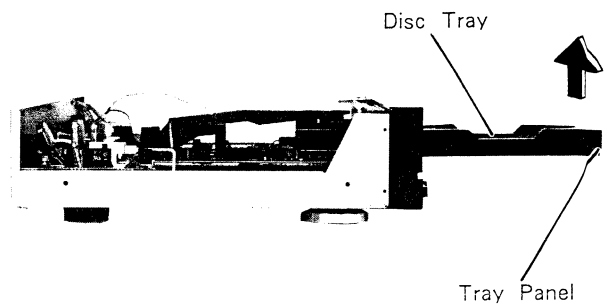

Figure 2
In Figure 2, tracks 1 through 9 have already been played back, and track 10 is currently in playback. The number 10 is displayed near the "DISC" symbol. ()
- (1) Open the disc tray.
- (2) Remove the tray panel in the arrow direction as shown in Figure 2.